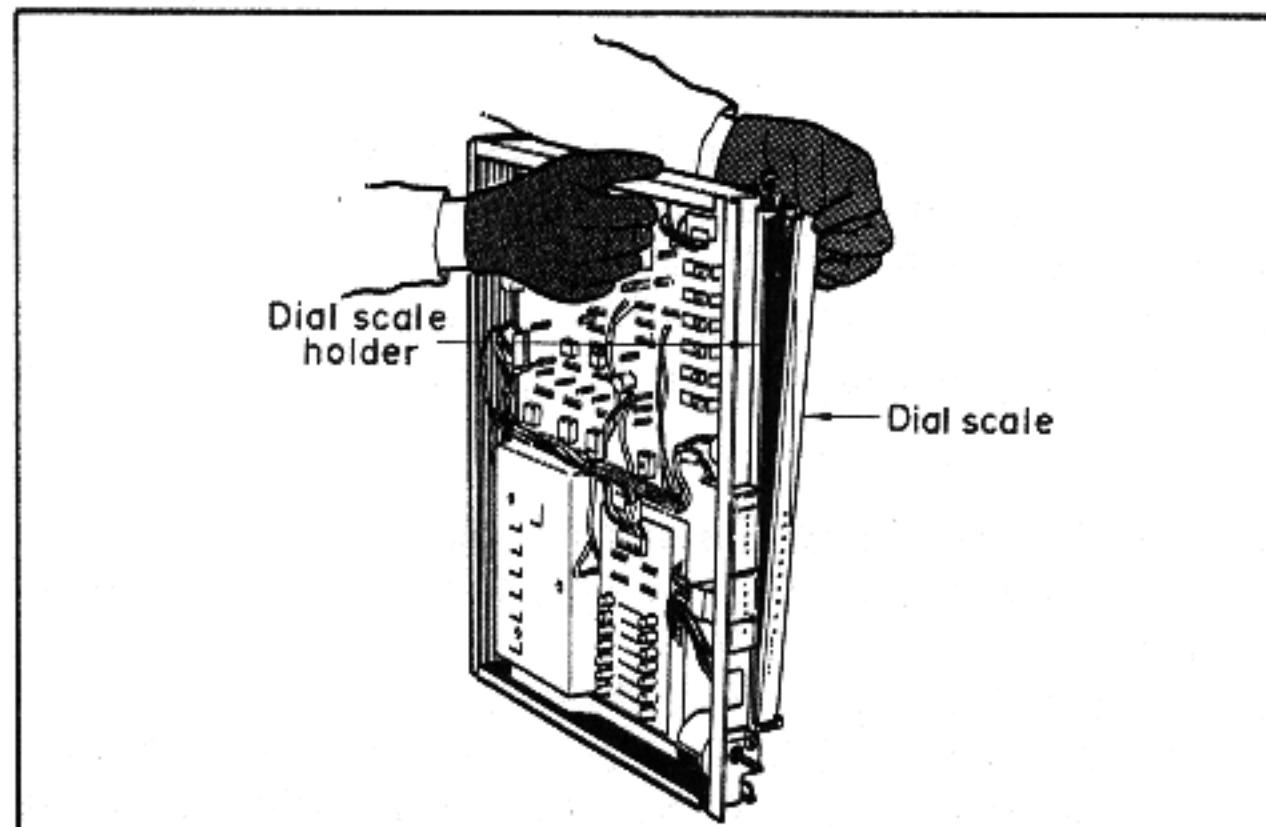

Fig. 2
- c. As in Fig. 2, depress the dial scale in the direction of arrow 1, and then remove it in the direction of arrow 2.
\* When the dial scale is attached to the holder, depress in the direction of arrow 1 in Fig. 2 and at the same time slip it into the holder.